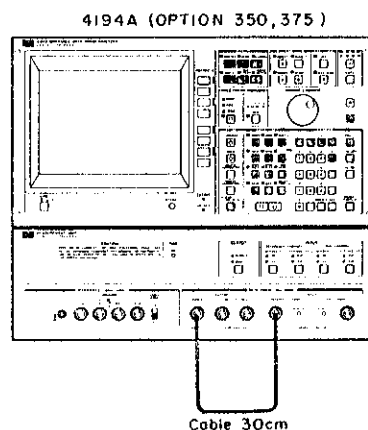

Figure 4-24. Gain-Phase Measurement Signal Level Test Setup 4
1. Set up the equipment as shown in Figure 4-24.